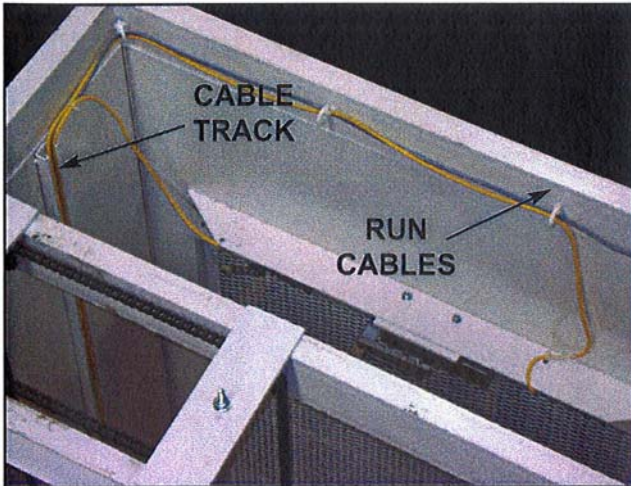

Figure 14
- Run upper electrical component cables up back panel in unistrut and secure with covers. Route wires to appropriate components (wire markers) securing around top of lift out of way of any moving parts. Run push button cable over top of lift and down along edges to push button station mounted near gate handle. Secure cable out of way. See Figures 14, 15 and 16.